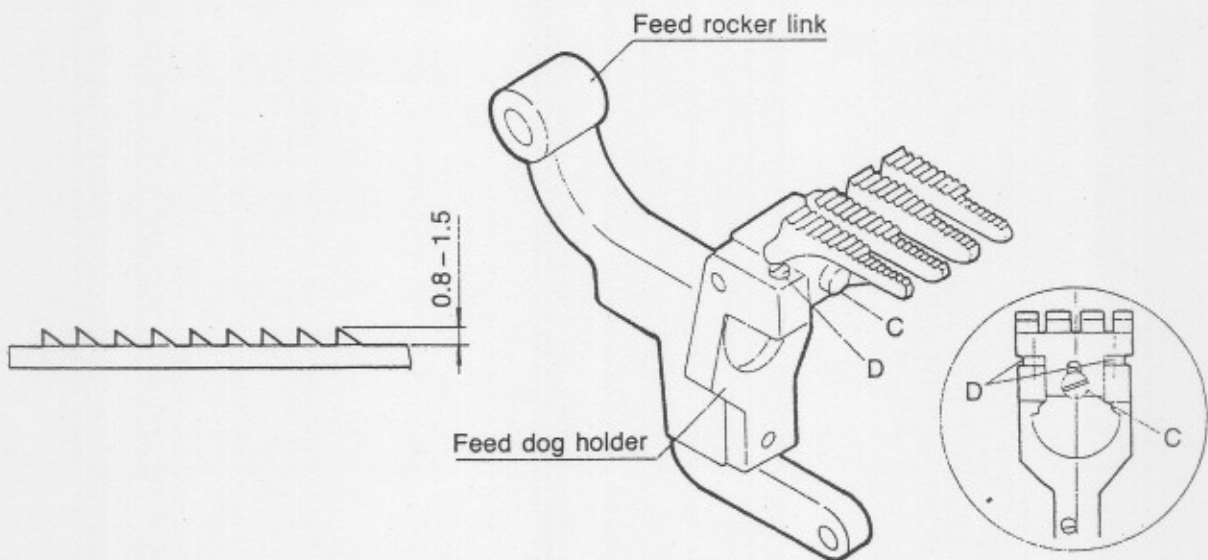

Fig 14
At the time when the feed dog becomes extreme upper end position, the height of feed dog from the surface of needle plate is 0.8mm - 1.5mm as indicated in Fig. 14.
1. Firstly, loosen the feed dog screw C in Fig. 14.
2. After moving the feed dog up to down, the correct height is setted, please tighten the screw C in Fig. 14.